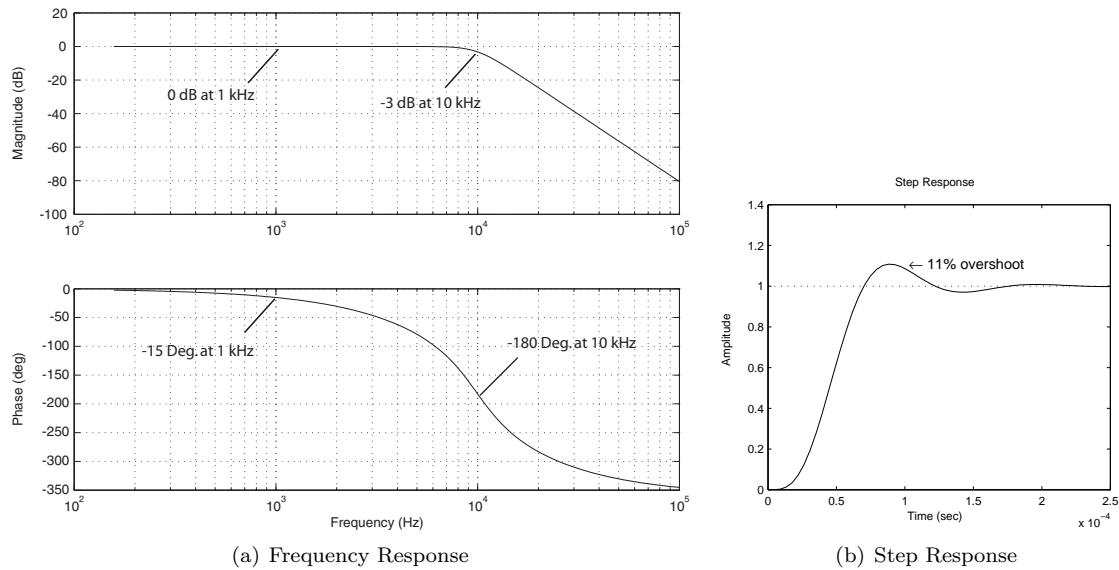

Figure 1: Frequency and step response of a 4-pole Butterworth low-pass filter with a bandwidth of 10 kHz.
2. Use the frequency response (both magnitude and phase) in Figure 1 to plot or sketch by-hand the steady-state time response of the filter to an input sine wave at 1 kHz. Indicate both the input sine wave and the output sine wave and specify how the amplitude and phase change.